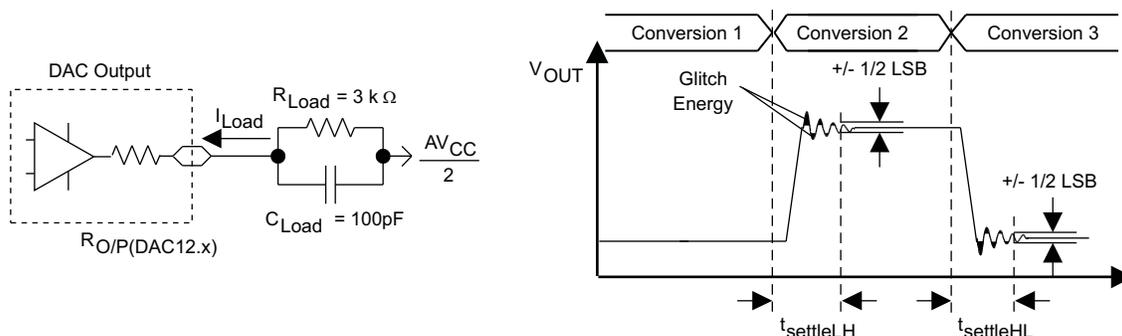
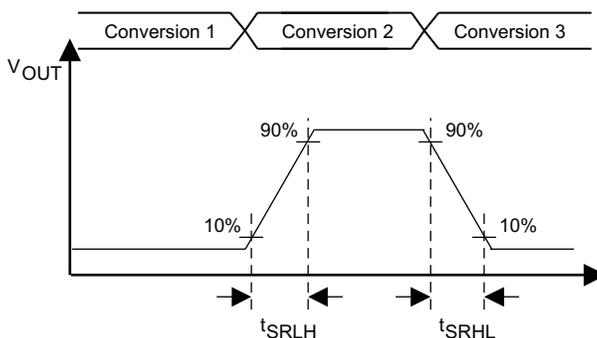

Figure 5-30. Settling Time and Glitch Energy Testing
Figure 5-31. Slew Rate Testing
$V_{ref} = V_{CC}$, DAC12IR = 1, over recommended ranges of supply voltage and operating free-air temperature (unless otherwise noted) (see Figure 5-30 and Figure 5-31)
(1) R_{Load} and C_{Load} connected to AV_{SS} (not $AV_{CC}/2$) in Figure 5-30.
(2) Slew rate applies to output voltage steps ≥ 200 mV.